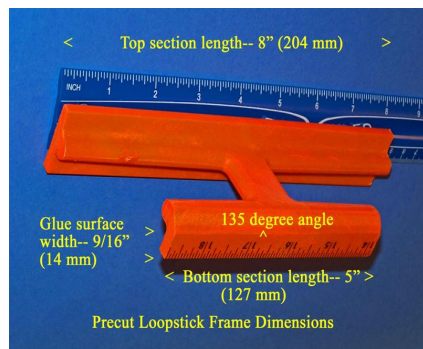
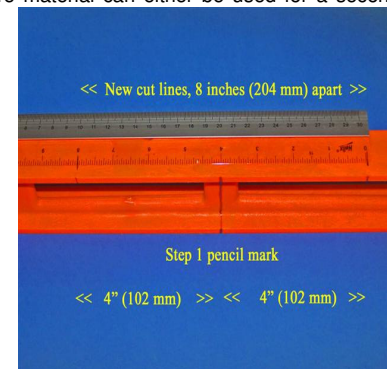

Figure 1
Figure 2
1) Remove the Ace Hardware tag from the plastic level, and place the level on a flat surface, with the labeled (ruler surface) in front, as shown in Figure 2. Locate the two vertical sections of plastic resembling those in the Figure 1 (at the 16" and 32" points on the ruler scale), and at either vertical section (or at both, if you wish to construct two loopstick frames), mark the exact center line of the vertical section with a pencil, as shown in Figure 2. Extend the line to the top and bottom sections of the plastic level, as shown.
4) Using a hacksaw or power miter saw, carefully cut the top and bottom sections of the plastic level at the pencil mark cut lines previously drawn in the last two steps. When cutting along these lines, take care to cut along the exact center of each line, so that the final frame width will be exactly as specified (8" or 204 mm for the top section, and 5" or 127 mm for the bottom section). Cut the top (wider) section of the frame first, to ensure that the frame is not accidentally cut short, and that no damage is made to the frame by stray saw marks. When using a power miter saw, carefully and promptly remove all hot plastic debris along the cut lines with a rag before the plastic debris has time to harden along the edges. Ensure that all the cut lines are straight and parallel before proceeding. The appearance of the loopstick frame should now resemble Figure 1, with the exception of the angled cut through the bottom section.